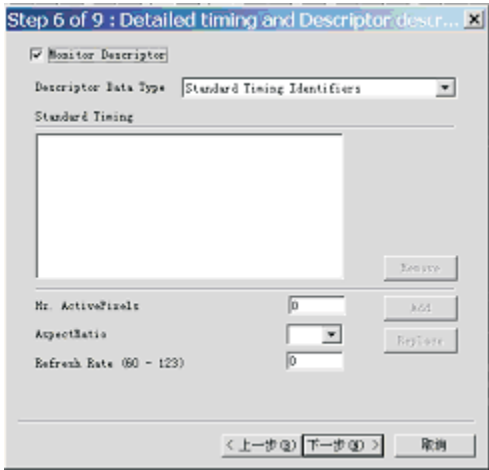

Fig. 19
5. Click Next , bring up Fig. 19.